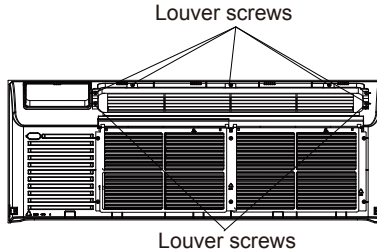

Fig.18—Backside of Front Panel
- 2.Remove louver screws that hold louver insert in place (from back side of front panel).See Fig.18.